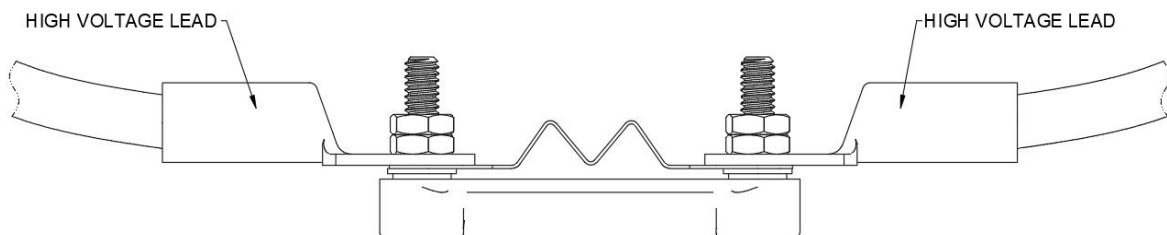

Figure 5
Step 4 Complete installation of high voltage lead lug on the opposite side by Step 1 to Step 3 (Figure 5).